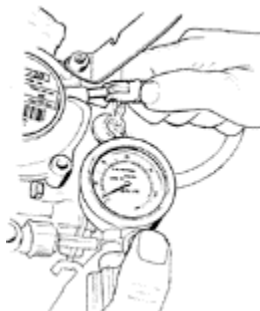

Figure 2
2. Adjust the air pressure in the pressure accumulator if fitted (fig 2) in accordance with the operating pressure used to spray. Adjust according to Table A. The pressure can be measured using a car tyre pressure gauge.